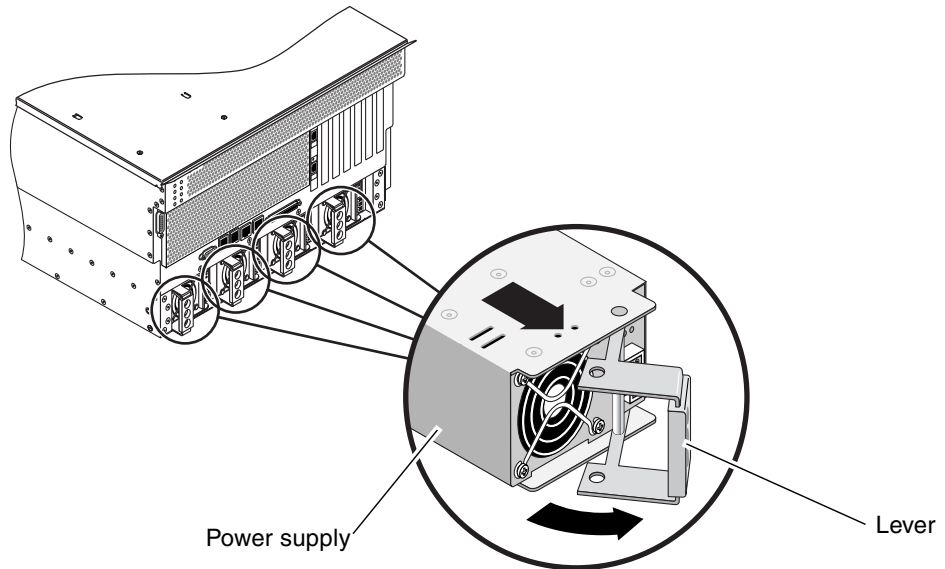

FIGURE 4-37 Removing a Power Supply
- a. Go to the back of the system and pull the lever on the back of a power supply to the right (FIGURE 4-37).**